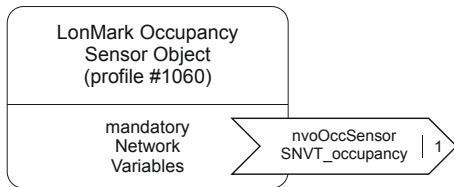

Fig. 5. Occupancy Sensor Object
- one occupancy sensor object (#1060) (see Fig. 5)